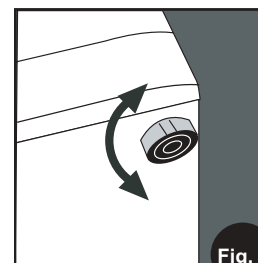

Fig. 8
- Adjust the legs up or down (Fig. 8) to ensure the washer is resting solid and does not rock side-to-side or front-to-back when the machine is upright.